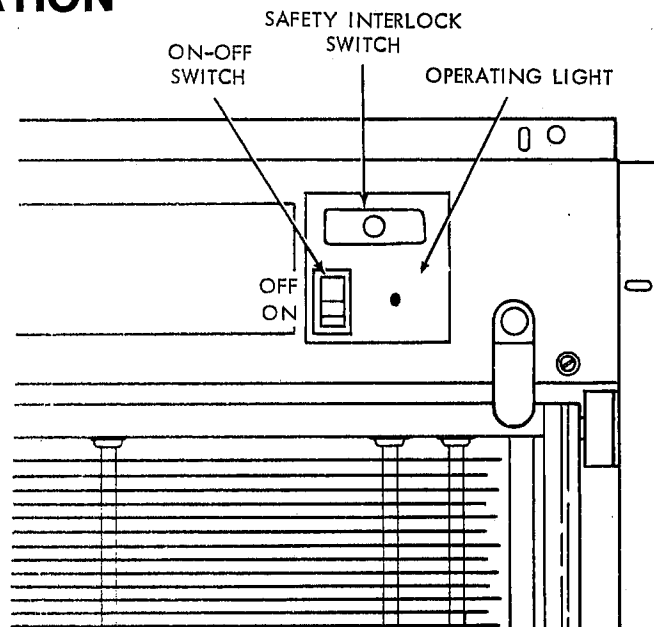

Figure 21
2. Press the lower section of "ON-OFF" rocker switch (Figure 21).
2. Push "ON-OFF" rocker switch at top to turn it off. (Figure 21). Wait 15 seconds.